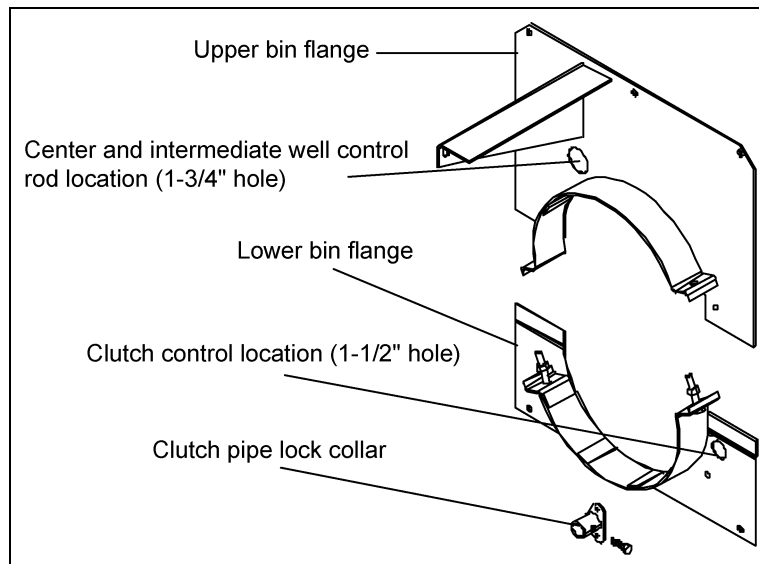

Figure 3E
- A. Cut an opening in the bin wall for the unloading tube. Locate the opening below the floor the same distance as the auger tube connection to the center well. Make sure the hole is in line with the tube on the center well. Use the Chart below to determine the size of hole to be cut in the bin wall. (See Figure 3E.)
- D. Drill holes in the bin wall through the existing holes in the flange for the well control rods and clutch control rod. (See Figure 3E on Page 14.)
- D. Check operation of clutch by pulling the handle to engage the clutch and then pushing the handle to disengage. Control pipe should slide freely. Lock control pipe into disengaged position by tightening the bolt on the lock collar that is attached to the bin flange. (See Figure 3E on Page 14.)